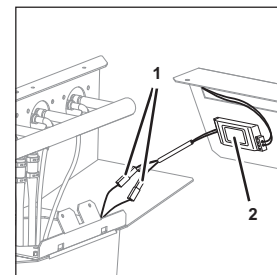

Fig. 34
3. Disconnect the plugs (Fig. 34/1) for the electrical cable (cable no. 220046597) of the voltage transformer (Fig. 34/2).
5. Connect the plugs (Fig. 34/1) for the electrical cable (cable no. 220046597) of the voltage transformer (Fig. 34/2).